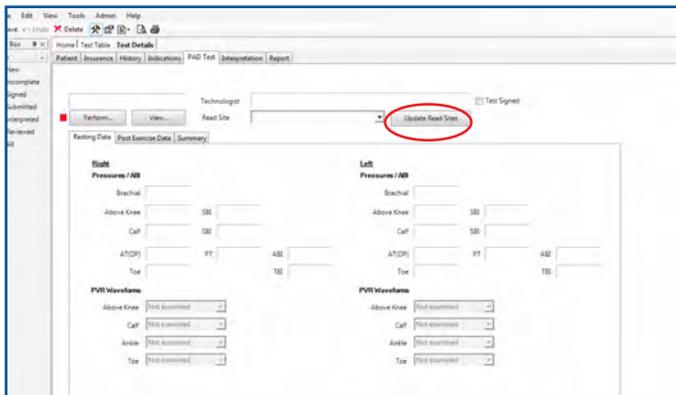

FIGURE 1.47 - Test tab - “Update Read Sites” Button
1. Select a Read site to which to send the study for interpretation and click “Test Signed” to complete the study. If no Read sites appear in the dropdown list, ensure that the internet connection is active, then click the “Update Read Sites” button (Figure 1.47). Read site(s) attached to the Site ID will populate the dropdown.